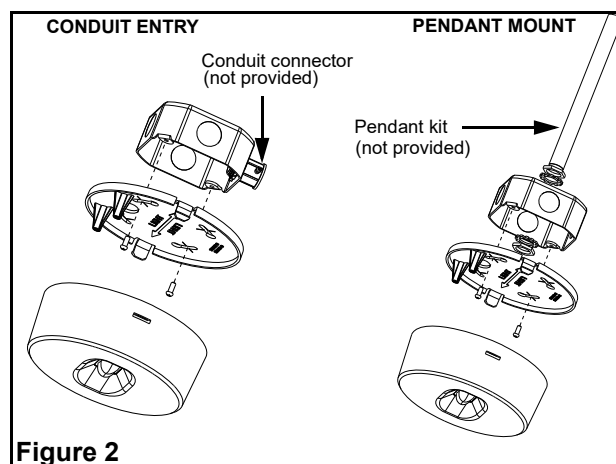

Figure 2
3. For conduit entry, attach a conduit connector to junction box and insert a flexible conduit into conduit connector leaving 6 inches of wire inside the junction box. Secure flexible conduit to junction box. (see fig. 2)
4. For pendant mount, secure pipe to junction box and leave 6 inches of wire inside junction box. (see fig. 2)